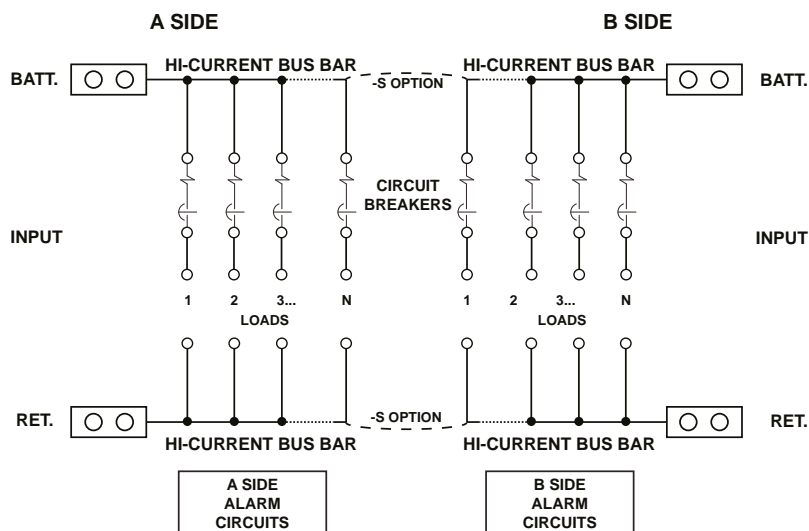

Figure 2. Block Diagram
| Figure 2. Block Diagram | 7 |
6.1 Power Distribution Circuits. A simplified schematic diagram of the distribution panels is shown in Figure 2. The battery input to each load connects to a high-current copper bus bar from which the individual fuses or circuit breakers distribute power to the loads. The return input connects to a similar bus bar to which the individual loads terminate. The A and B loads are totally independent and isolated with the exception of models incorporating the 'S' option.